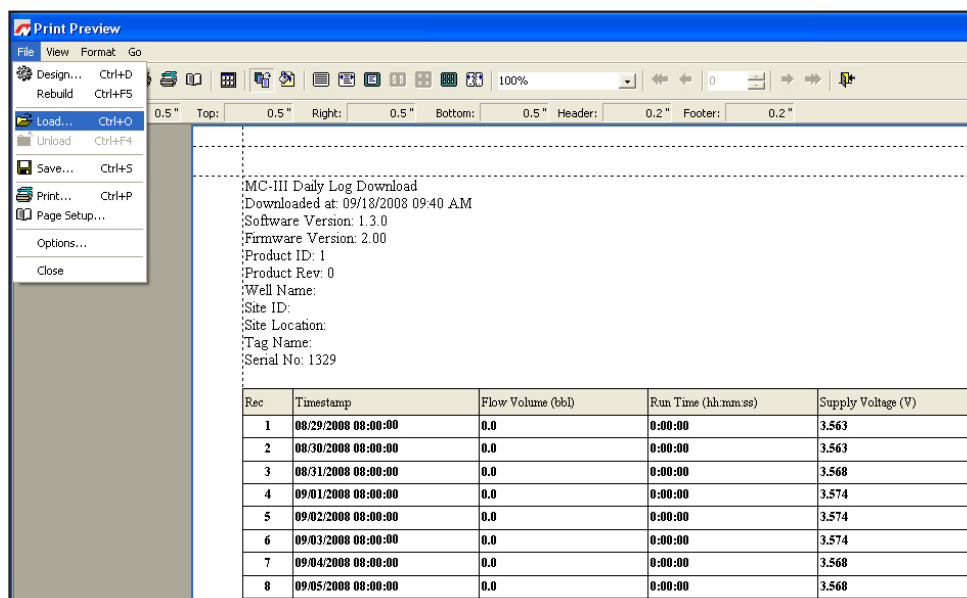
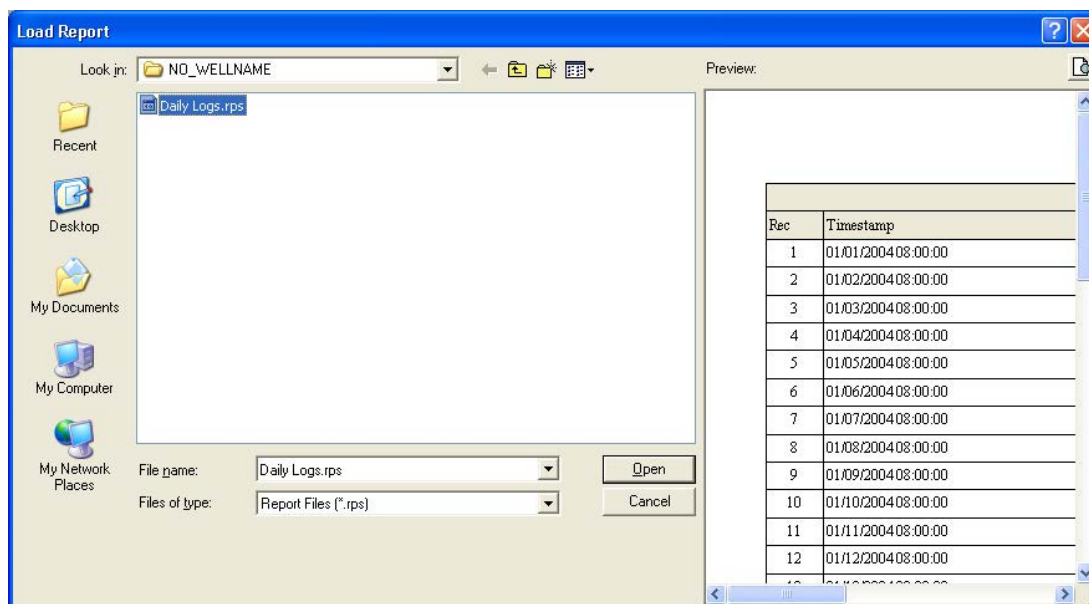

Figure 5.10—Menu for loading a saved report
Figure 5.11—Load Report screen for viewing saved flow log reports
2. Select File>Load from the task bar at the top of the page (Figure 5.10). A Load Report window will open (Figure 5.11).